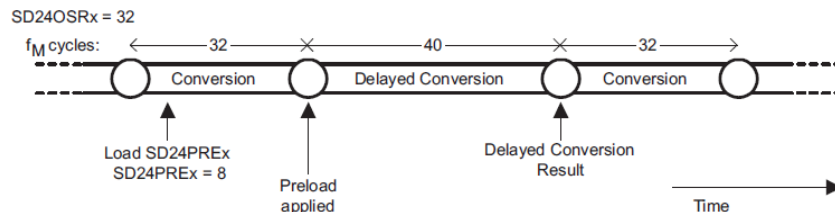

Figure 9. Phase Compensation Using PRELOAD Register
When a Current Transformer (CT) is used as a sensor, it introduces a phase shift between the current and voltage signals. Also, the voltage and current input circuit's passive components may introduce another phase shift. The relative phase shift between voltage and current samples need to be compensated to ensure accurate measurements. The $\Sigma\Delta$ converters have programmable delay registers (SD24PREx) that can be applied to a particular channel. This built-in feature (PRELOAD) is used to provide the phase compensation required. Figure 9 shows the usage of PRELOAD to delay sampling on a particular channel.